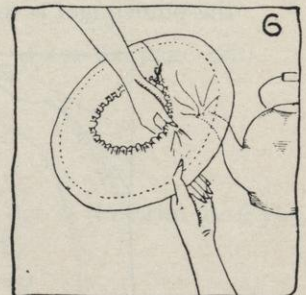

FIG. 6.
- h. While steaming, pull the fullness toward the center (see Figure 6).
- (1) You will see the fullness coming out, but the material has become loose, therefore pull up shirring string tighter, and twist it on the pin again.
- (2) Continue steaming, and pulling up the shirring string until you have taken out as much of the fullness as is possible.
- a. Cut all shirrings and pull them out (see Figure 6 of Job 20, page 84).